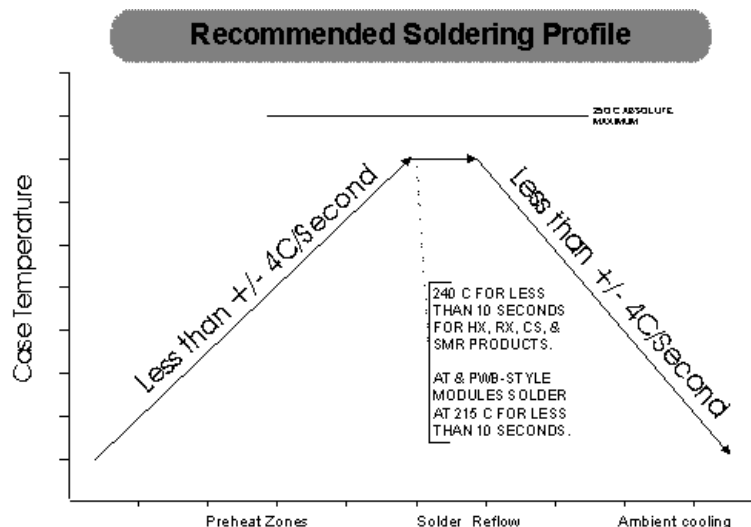
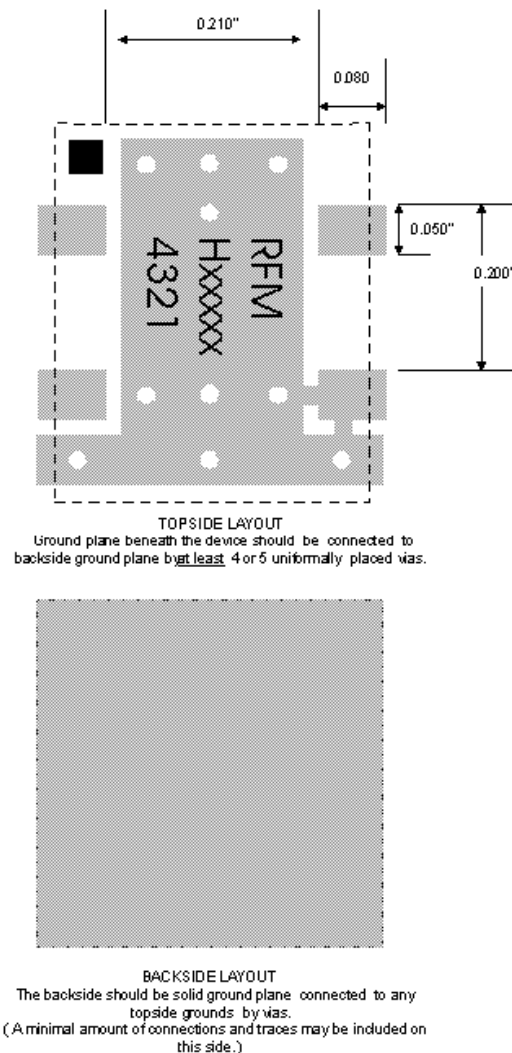

Figure 1
Figure 2
- When setting up your soldering process, follow the Recommended Soldering Profile supplied with this application bulletin (Fig. 1). Maximum soldering temperature along with ramp up rate and cool down rate are important variables to consider when adjusting for your solder flow processes. Note: When hand soldering, as in engineering prototype assembly, care should be taken to avoid excess mechanical stressing on the parts. This, too, can result in seal damage.
Refer to the layout drawing (Fig. 2) for the HX transmitter. The illustration shows pad spacing as being identical to the HX. It is permissible, as in Figure 1, to extend the pads beyond the body of the HX. This will allow for easier inspection of the solder joint. This not mandatory, however.